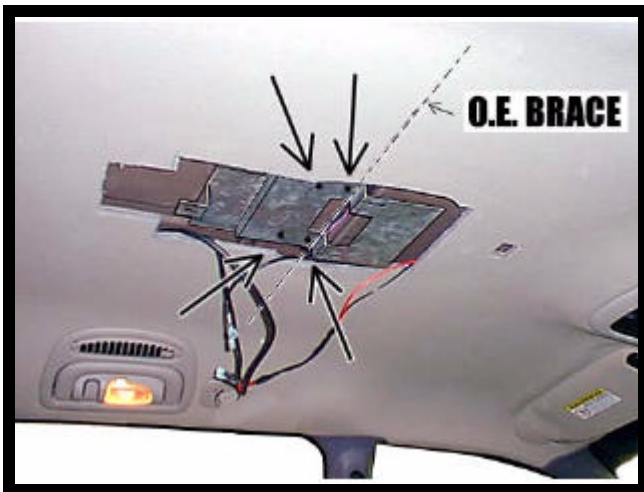

FIGURE 5
9. Install console mounting bracket (item 6 pg 2) over O.E. bracket on roof brace. Align bend in bracket with edge of O.E. brace. Secure bracket using (4) four # 8 x 9/16" screws (item 1 pg 2). See Figure 5.